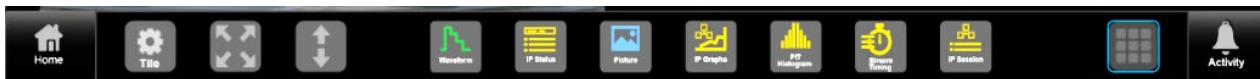

Figure 14: An example of the Application toolbar
1. Select the **Tiles** icon () to open the Application toolbar. (See Figure 14.)